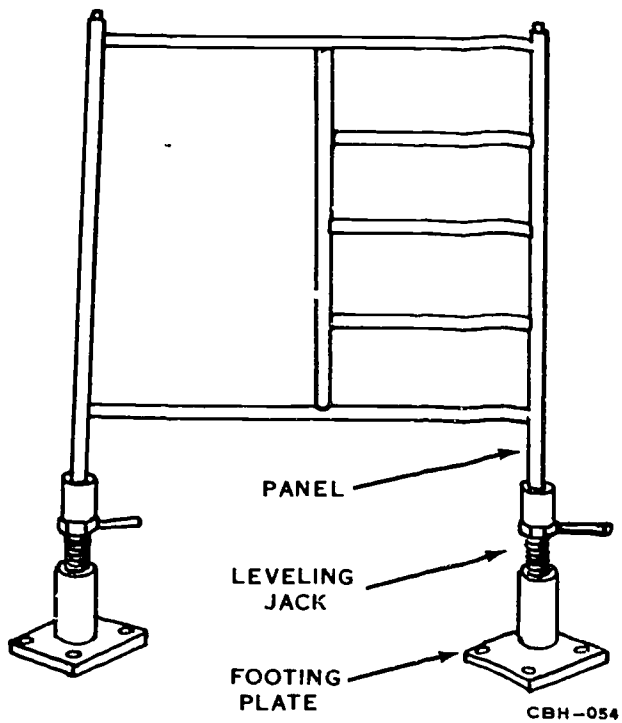

Figure 4-5. Installing leveling jacks.
**Sectional steel scaffold.** First set the footing plates on firm, even ground or on a board to support the weight of the scaffold. Then insert a leveling jack into each footing plate and install two panels into the leveling jacks (fig. 4-5). Have helpers steady the panels while you attach X-type pivoted braces, as shown in figure 4-6. Now you have one basic unit. Add more units until the scaffold is as long and as tall as you need. Figure 4-7 shows an erected scaffold. The upright legs of the scaffold are held securely by couplings. Spring-loaded pins in the coupling automatically lock the sections together.